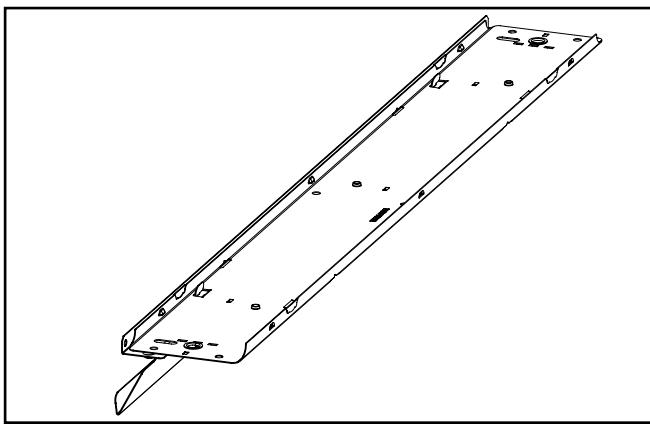

Figure 2.
2. Locate the tabs on the reflector and align with the tab holes on the channel. Slide the reflector down to lock the tabs onto the channel. (Figures 2 and 3).